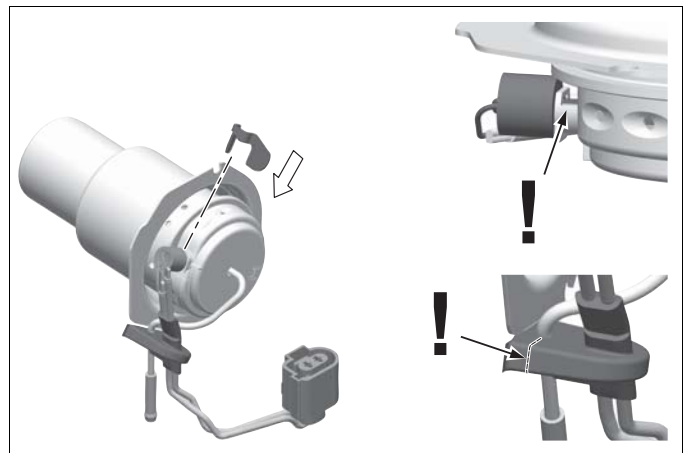
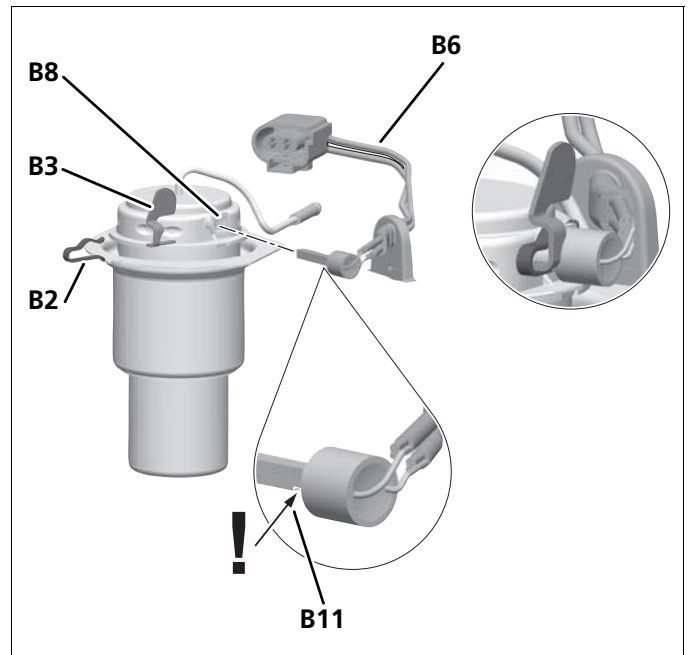

Fig. 910 Installing cooling flag
Fig. 913 Installing glow plug
Install glow plug (B4) with groove (B11, below ceramic) toward combustion pipe (see detail Fig. 913).
3. Hold cooling flag (B3) in groove (B11) with hand on glow plug dome (B8) (see Fig. 910 and Fig. 913).
- Slide retaining spring of glow plug (B2) over cooling flag (B3) and glow plug dome (B8) (for orientation of retaining spring B2, see Fig. 913).